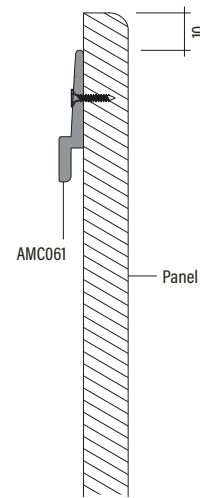
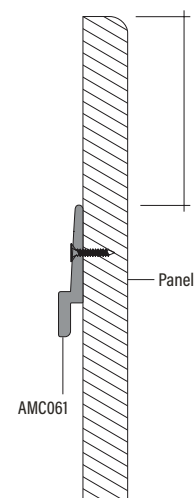

Fig. 3
Fig. 4
2. Top Panel Rails are pre-mounted as per Fig. 3 on intermediate panels and Fig. 4 on panels abutting ceiling